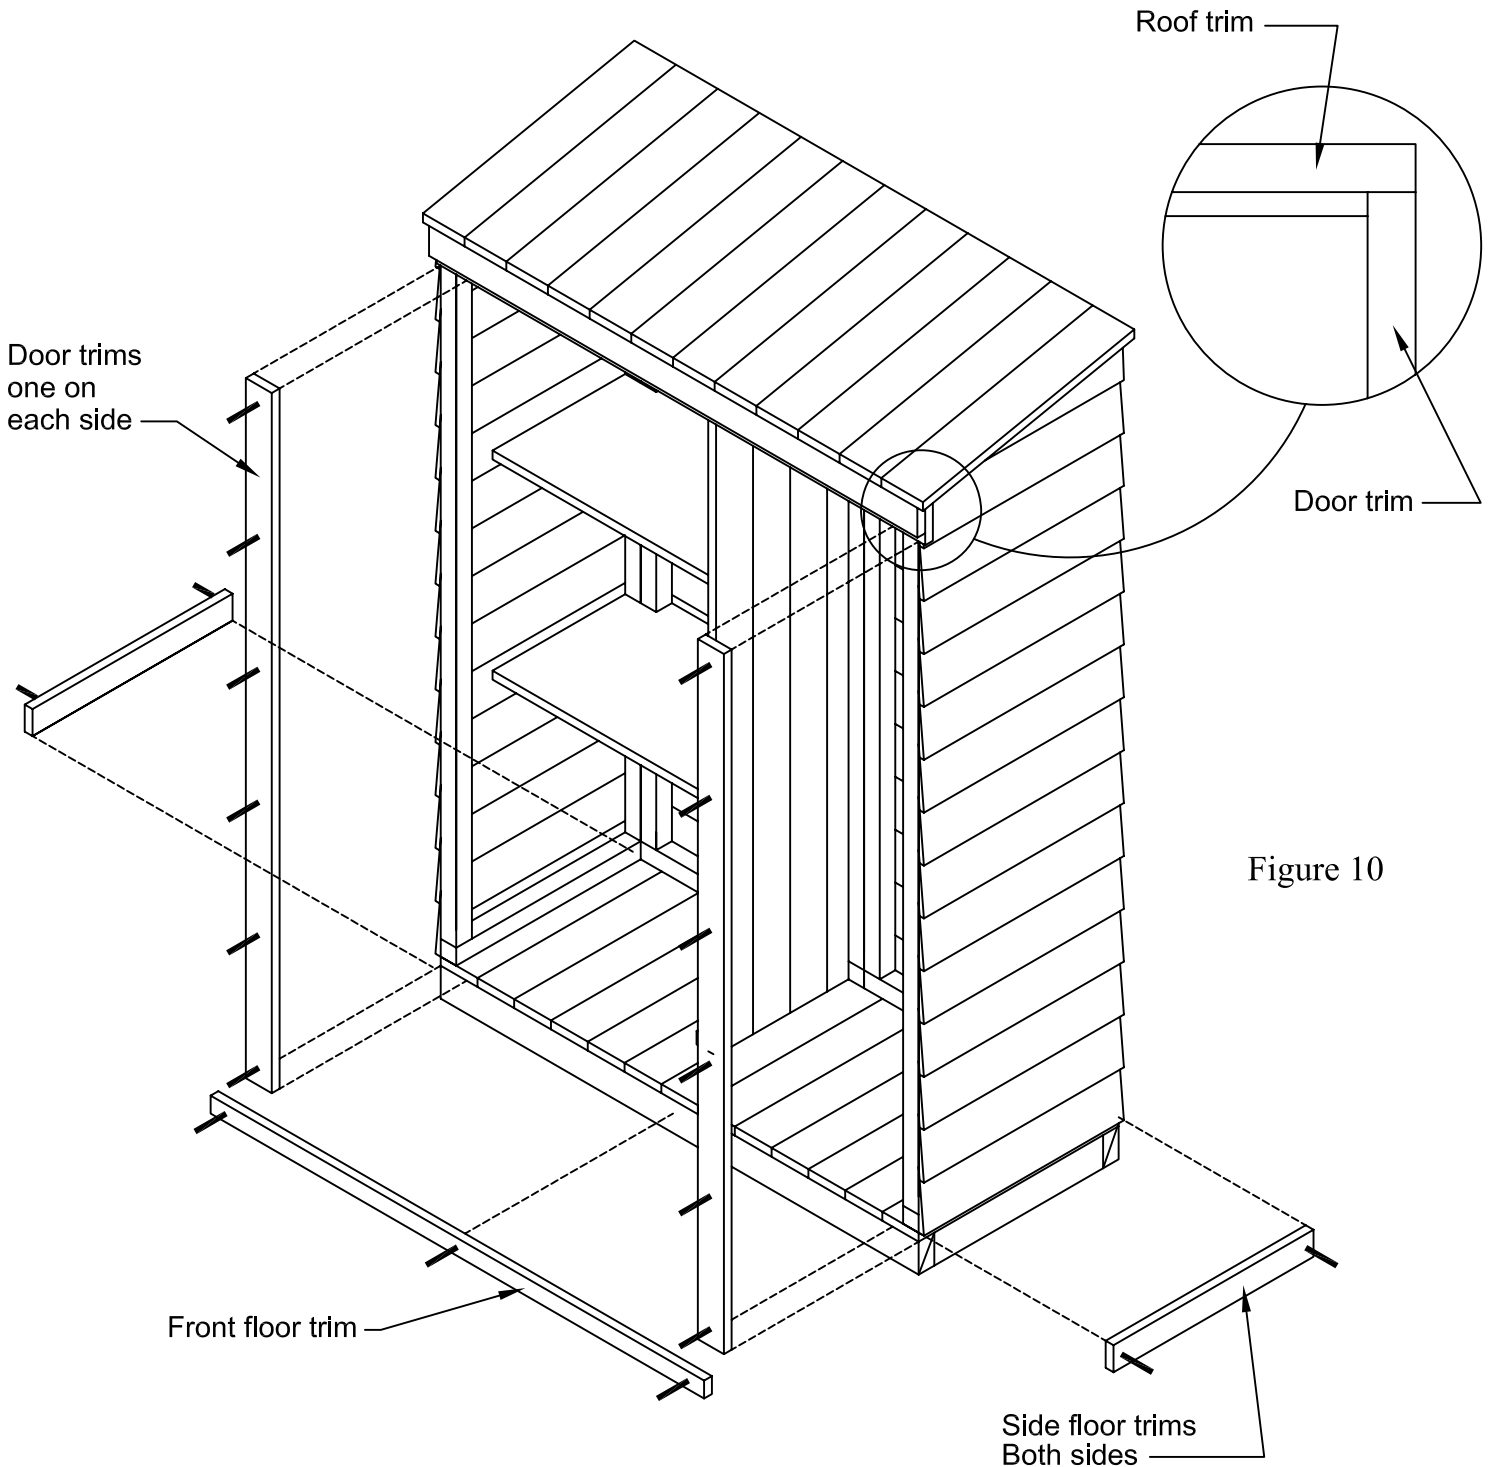

Figure 10
16. Fasten the two door trim boards to the front corners of the Hutch. They will fit flush against the outside of the siding and line up with the base and roof trim outside edges. Use 6 - 1 3/4" nails to fasten each trim pieces. Repeat the procedure with the side floor trim pieces, as shown in Figure 10. Use 2 - 1 3/4" nails per side floor trim.